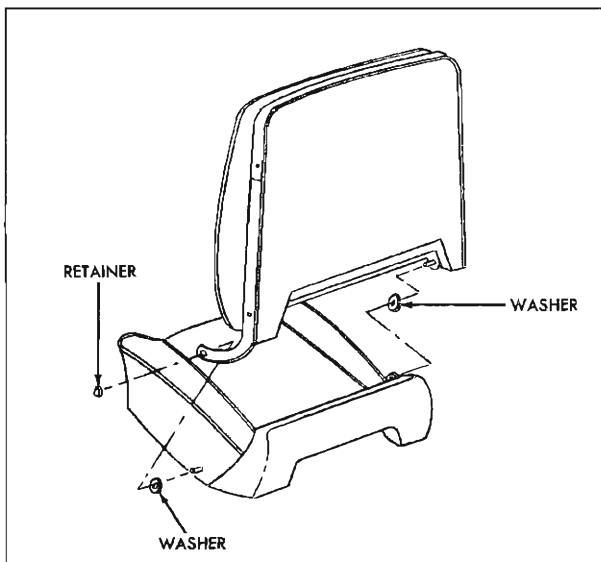

Fig. 22-3 Seat Back Removed
1. On all styles, using a flat-bladed tool, carefully remove retainer from outer hinge pin (Fig. 22-3).
2. On all styles, tilt seat back forward and remove retainer from inner hinge pin (Fig. 22-3).
5. To install, reverse removal procedure. Prior to installation of back assembly, be sure inner and outer washers are installed over the hinge pins (Fig. 22-3).